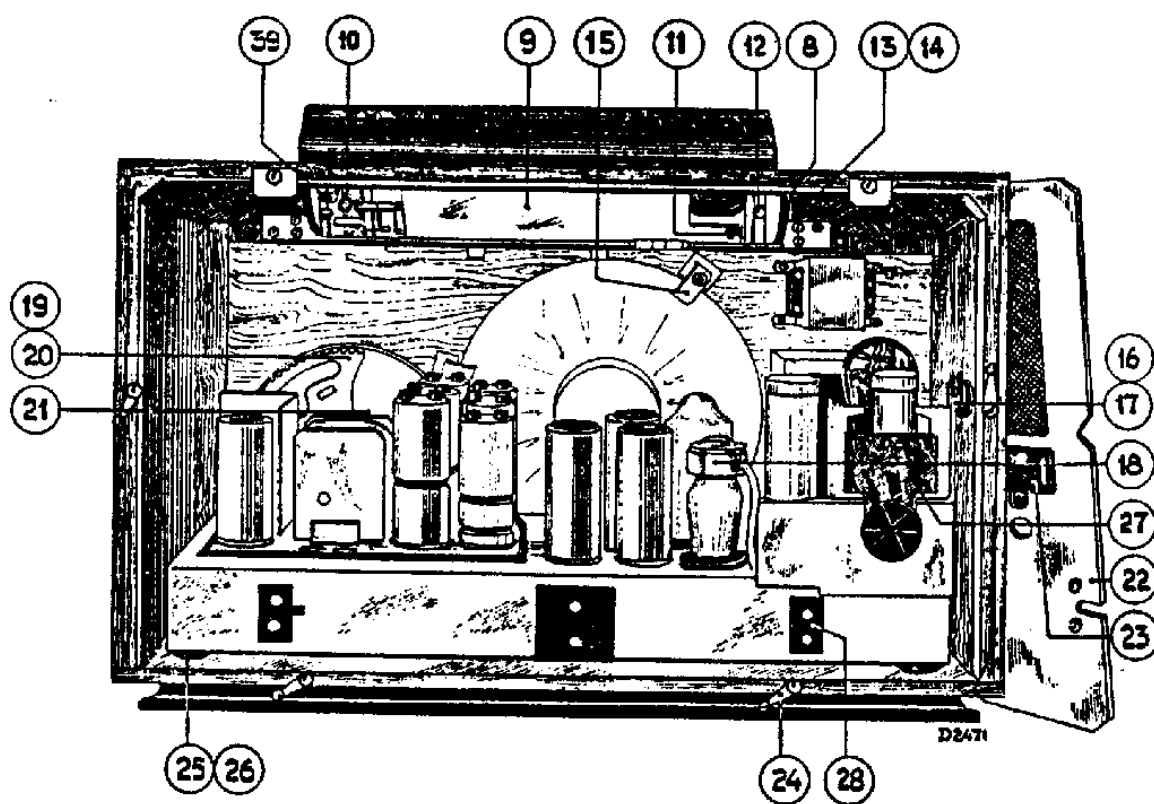

Fig. 14
1. Loosen the two screws indicated in fig. 14 by pos. 39. The escutcheon is then to be taken away.